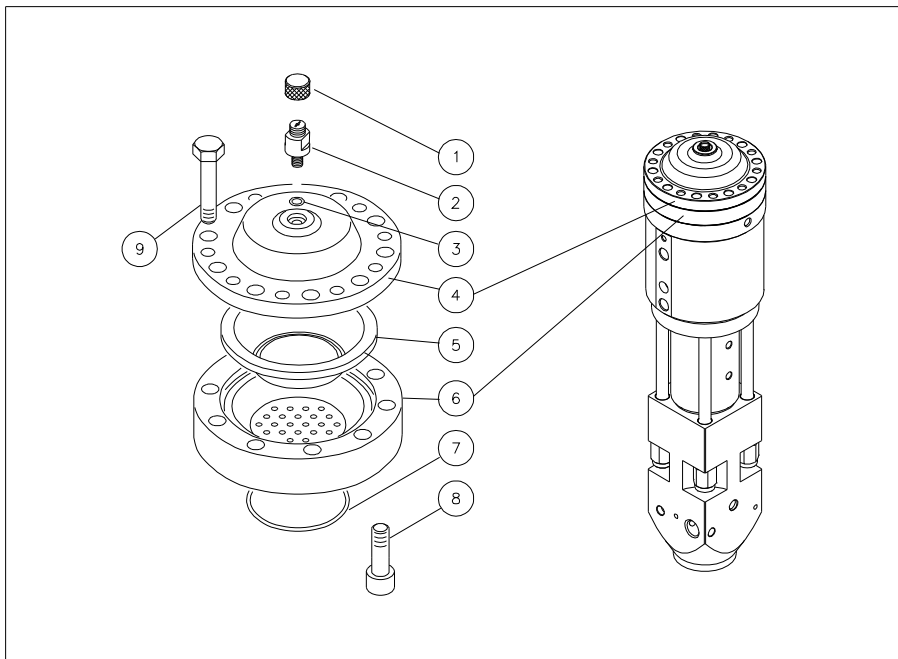

FIG. 22
The accumulator is a device which accumulates energy when the piston rises again after a beat and returns it when the piston begins its downward stroke, thereby providing power and force on impact between piston and tool. The accumulator also acts to dampen the counter-blows which the hammer transmits to the machine arm. With reference to figure 22, a membrane (5) is inserted between the accumulator body (6) and the cover (4), connected together by means of screws (8). This assembly is fixed to the hammer head using the screws (9). In the middle of the accumulator body a nitrogen recharging valve is inserted (2) with the special cap (1). To ensure the efficient performance of the hammer it is important that the accumulator is in good conditions and in working order.
- On pressing the pin in the middle of the valve (2) the nitrogen contained inside the accumulator disappears, thereby jeopardising the hammer performance.
- Never dismantle parts (6) and (4) without previously making sure there is no further pressure inside them. To make sure of this press the pin in the middle of the valve (2) wait for a few seconds and then proceed with dismantling.
With reference to figure 22 and the spares tables here follows a list of the screw torque wrench.